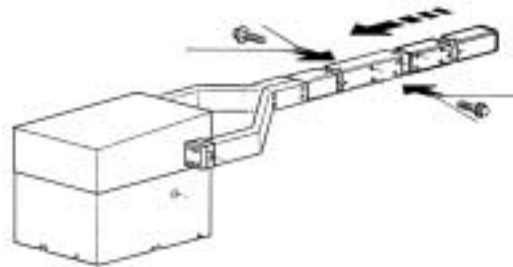

Fig.6
- 3- Insert the boom arm into the boom arm coupling links (Fig. 6).